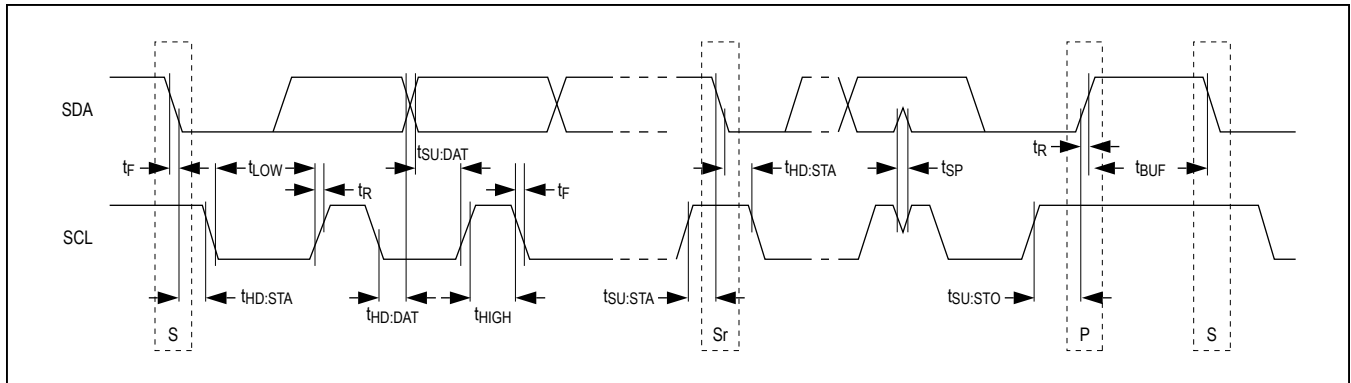

Figure 2. I2C Timing
Writing to the device using I2C requires that first the master send a START condition (S) followed by the device's I2C address. After the address, the master sends the address of the register that is to be programmed. The master then ends communication by issuing a STOP condition (P) to relinquish control of the bus, or a repeated START condition (Sr) to communicate to another I2C slave (Figure 2).